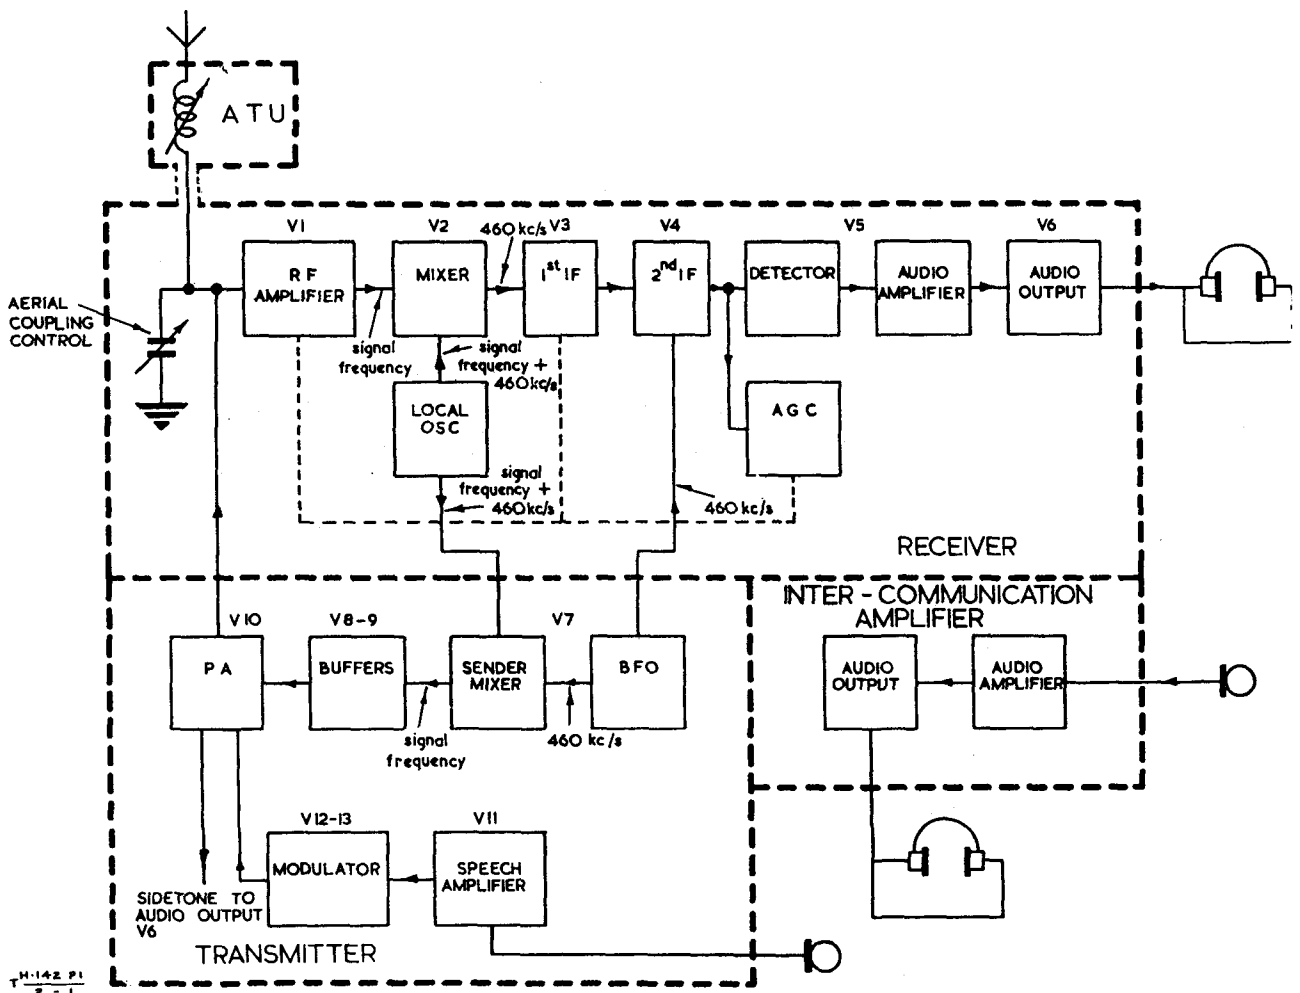

Fig 1 - Block diagram
BRIEF ELECTRICAL DESCRIPTION (see Fig 1)
9. The wireless set is built on a conventional aluminium dish chassis, with aluminium screening compartments. The chassis is housed in a pressed aluminium case, of the same size and physical form as the case used for W.S.19. This has been done to facilitate replacement of W.S.19 by W.S.C12 in AFV installations. The front edge of the case is recessed, the recess being filled with a sealing compound, which, when the panel is in place, prevents ingress of moisture. All controls on the panel are of the sealed type; the construction of one such component is shown in Tels H 144 Fig 1.